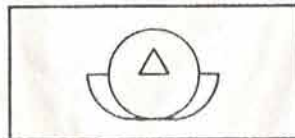

Figure 8-3
e. Upon completion of the rework described herein, replace all connecting rod bolts and install new bolts, part No. 19632, which are identified with the symbol "△" on the head of each bolt as shown in figure 8-3.